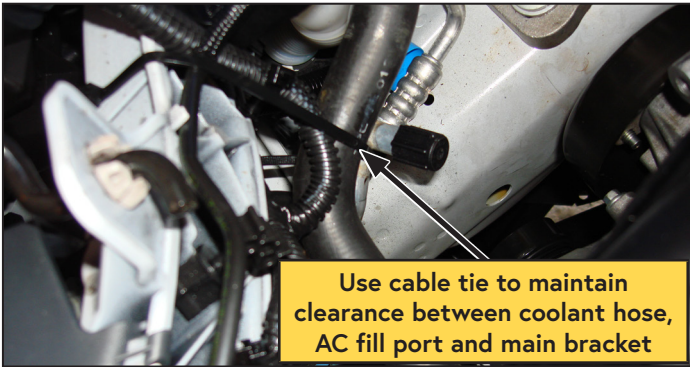

Figure 23 — Secure Coolant Hose
- Use a long cable tie to pull the coolant and AC hoses up, and toward the front of the vehicle, and secure it to the radiator cross member (Figure 23).